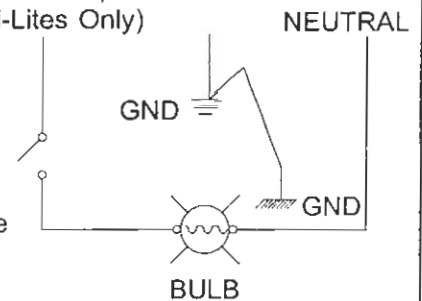

Figure 3
- (See Figure 3) The power supply line, not provided by Medical Illumination, must be long enough to reach two inches past the bottom of the supplied Ceiling Rod with the following specifications:
All wiring must conform to local codes (see Figure 3).